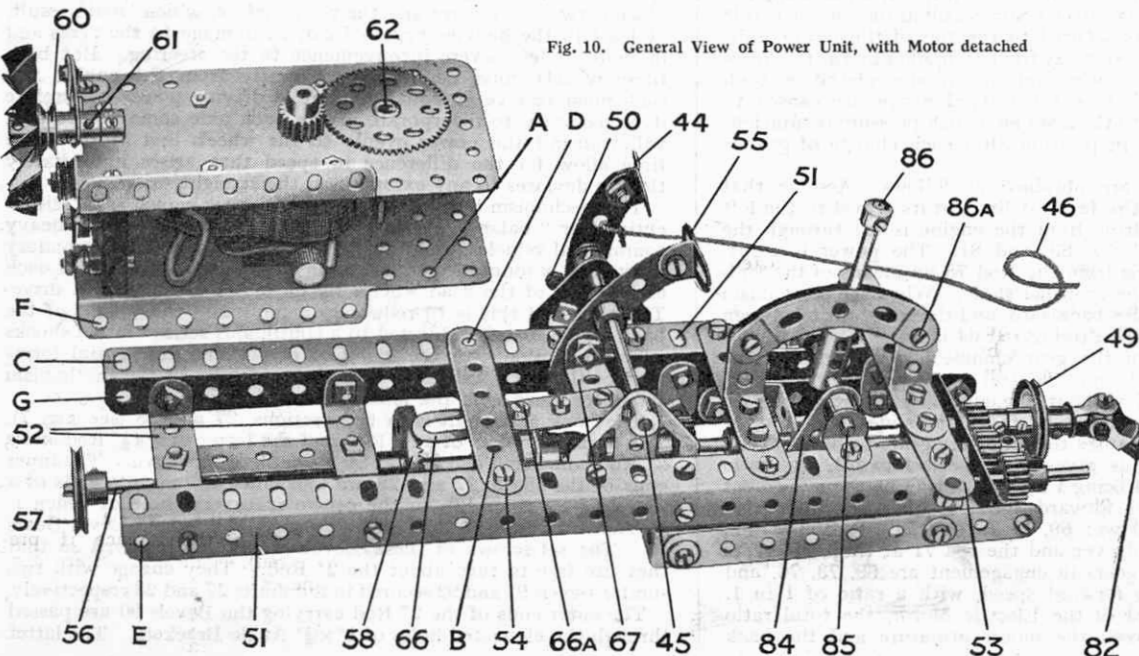
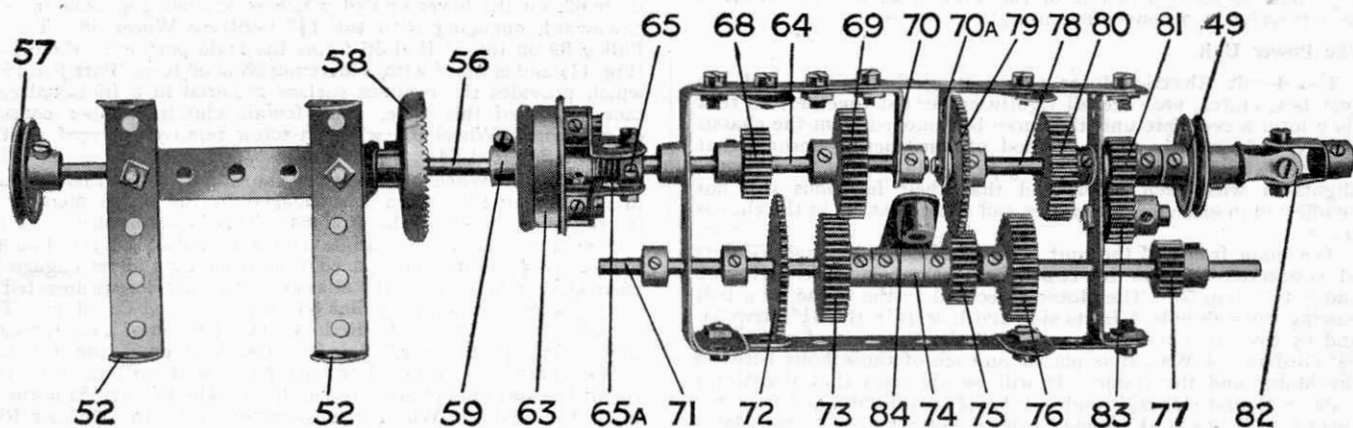

Fig. 10. General View of Power Unit, with Motor detached
Fig. 11. Gear Box and Clutch
A second brake is fitted to the chassis and is operated by the foot pedal 44, the mounting of which is clearly shown in the general view of the power unit (Fig. 10). It will be seen that the lever consists of a 2½" large radius Curved Strip pivoted by its centre hole to a 3½" Rod 45 journalled in two Trunnions. A length of cord 46 (Figs. 2 and 10) is tied to the second hole of the lever and is led under the ½" loose Pulley 47 (Fig. 2), round a second ½" Pulley 48 (mounted on a Pivot Bolt secured in the end of a Single Bent Strip bolted to the cross member 2) and thence round the groove of a 1" Pulley 49 (Fig. 10) secured to the cardan shaft. The cord is finally brought back and tied under the head of the Pivot Bolt carrying the Pulley 48. A slight pressure on the pedal 44 tightens the cord round
a 1" fast Pulley 57, a 1½" Contrate Wheel 58, and a 1" fast Pulley 59 (Fig. 11). A length of cord connects the Pulley 57 with the ½" fast Pulley 60 (Fig. 10) secured to the shaft of the radiator cooling fan, which is free to rotate in the boss of a Crank 61. The latter is bolted by its end hole to an Angle Bracket secured to the top of the Motor. When the engine is in motion the fan rotates at a considerable speed immediately behind the radiator.
The main frame of the unit consists of two 9½" Angle Girders 51 connected together by two 2½" x ½" Double Angle Strips 52 and a 4½" Strip 53. The Motor is secured to the frame by a bolt passing through hole A in its side and hole B in the 3½" Strip 54, and by two other bolts engaging the holes C and D of one of the 9½" Girders. A Washer is placed on each of these bolts between the Motor and the frame. It will be observed that the Motor rests on the far side 9½" Angle Girder (Fig. 10) only, and is bolted thereto. The near 9½" Angle Girder is not attached to the Motor except by the 3" Strip 54.
The drive from the Motor armature is first led to a secondary shaft 62, on the lower end of which is secured a ¼" Pinion, boss downward, engaging with the 1½" Contrate Wheel 58. The 1" Pulley 59 on the 5" Rod 56 forms the male portion of the clutch (Fig. 11) and is fitted with a Meccano Rubber Ring (Part No. 155), which provides the resilient surface required in a frictional contact clutch of this type. The female clutch member consists of a Flanged Wheel 63, with set-screw removed, placed on the end of a 3½" Rod 64.
66 (Fig. 10) bolted to a 1½" Strip, the latter in turn being bolted to a 1" x ½" Angle Bracket 67 that is connected by a bolt and lock-nuts to the second hole of the pedal 55. The slot of the Strip 66 engages the Rod 62 immediately behind the Pinion driving the Contrate Wheel 58. The Rod 62 thus forms a guide for the Strip 66, which moves in a direction parallel to the Rod 56. It will be found that when the pedal 55 is depressed the shank of the bolt 66a engages with the rim of the Flanged Wheel 63, and the latter is thereby withdrawn from contact with the clutch member 59.
forward, neutral, and reverse gears. It is built up from two $4\frac{1}{2}$ " Strips connected together at the front end by a $2\frac{1}{2}$ " \times 1" Double Angle Strip and at the other end by a $2\frac{1}{2}$ " \times $\frac{1}{2}$ " Double Angle Strip (Fig. 11). It is bolted to the Angle Girders 51 in the position shown in Fig. 10 by means of four Flat Brackets.
The $3\frac{1}{2}$ " Rod 64 carrying the clutch member represents the primary driving shaft. It is provided with a $\frac{3}{4}$ " Pinion 68 and a 1" Gear Wheel 69, and its inner end is journalled in the 1" \times 1" Angle Bracket 70. The countershaft consists of a $6\frac{1}{2}$ " Rod 71 that is slidable in the end Double Angle Strips of the gear box. This Rod carries the following parts, reading from left to right in Fig. 11: two Collars (acting as stops to limit its sliding movement), a 50-teeth Gear Wheel 72, 1" Gear Wheel 73, two more Collars, one of which (74) is free on the Rod, $\frac{3}{4}$ " Pinion 75, 1" Gear Wheel 76, and $\frac{1}{2}$ " Pinion 77. These parts should be secured carefully in the positions indicated in Fig. 11.
An ordinary $7/32$ " Bolt passes through the elongated hole of the Crank 84 and enters the threaded bore of the Collar 74. A nut placed upon it is secured tightly against the Collar in order to prevent its shank touching the rod 71 and also to ensure that the Crank is quite free to pivot about the bolt. The Crank is secured to a 2" Axle Rod 85 (Fig. 10) journalled in Angle Brackets
The power unit is mounted in the chassis as follows. First remove the radiator by unscrewing the Strip 7a (Fig. 2) on which it is mounted; remove the bolt 86a (Fig. 10) from the change gear lever quadrant, and draw out the 5" Rod 87 (Fig. 2). Now place the power unit in position and bolt the end holes of the $4\frac{1}{2}$ " Strip 53 to the $\frac{1}{2}$ " Reversed Angle Brackets 88 (Fig. 2), and replace the 5" Rod 87, passing it through the holes E, F, G, of the Motor and power unit frame (Fig. 10). Collars on the Rod 87 are next screwed tight against the power unit, and the bolt 86a replaced in the gear lever quadrant. (This bolt was taken out merely to obviate the necessity of removing the Rod 42, Fig. 2, which passes through the centre of the quadrant). Replace the radiator and secure the cord 46 of the foot brake in the position previously described.
The different speeds are obtained as follows. Assume that the sliding rod 71 is at the furthest limit of its travel to the left in Fig. 11. Then the drive from the engine is led through the following gears: 68, 72, 77, 83, and 81. The power is transmitted to the road wheels from the Rod 78 by means of the Universal Coupling 82 and the propeller shaft. When the mechanism is so placed the chassis runs backward, and the speed ratio between the propeller shaft and the driving rod 64 is 1 in 2.
The propeller shaft consists of a $3\frac{1}{2}$ " Rod 95, one end of which is secured in the Universal Joint 82 (Fig. 11) and the other end, after passing through a Double Bent Strip and the side of the differential frame, is secured in the $\frac{1}{2}$ " Bevel Gear 96, which engages with the $1\frac{1}{2}$ " Bevel Gear 94. Two Collars 98 should be secured to the shaft 28 in the position shown to maintain the various gears in correct alignment and to prevent the gears 94 and 96 from slipping or binding against each other. A Washer should be placed between the outer Collar 98 and the Double Angle Strip forming the end of the differential frame, and two Washers should be placed against the boss of the $\frac{3}{4}$ " Bevel Gear 91.
It is scarcely necessary to add that all the working parts of the Chassis, with the single exception of the actual frictional surfaces of the clutch, should be lubricated at frequent intervals. Great care should be taken to prevent any oil coming in contact with the Rubber Ring on the clutch member 59 (Fig. 11), for the oil would cause the clutch to slip, of course, without transmitting the drive to the road wheels.